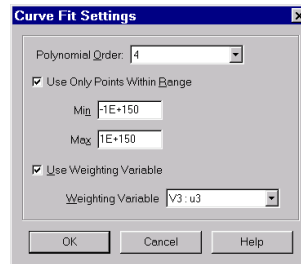

Figure 8-19. The Curve Fit Settings dialog.
4. Select the appropriate mappings in the Mapping Style dialog and click Curve Settings. The Curve Fit Settings dialog appears as shown in Figure 8-19.
By default, this option fits a cubic polynomial, using all the points in the mapping and weighting them equally. Use the Curve Fit Settings dialog, shown in Figure 8-19, to specify different settings: